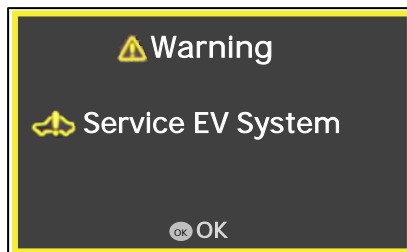
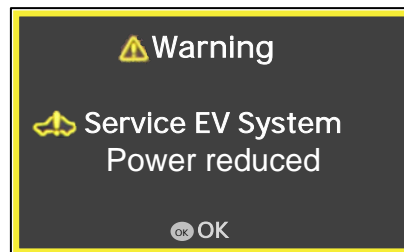

Figure 48
Figure 49
- If one of the warning messages shown in Figure 48 and Figure 49 sets during the drive pattern, return to the dealership without turning the vehicle OFF.